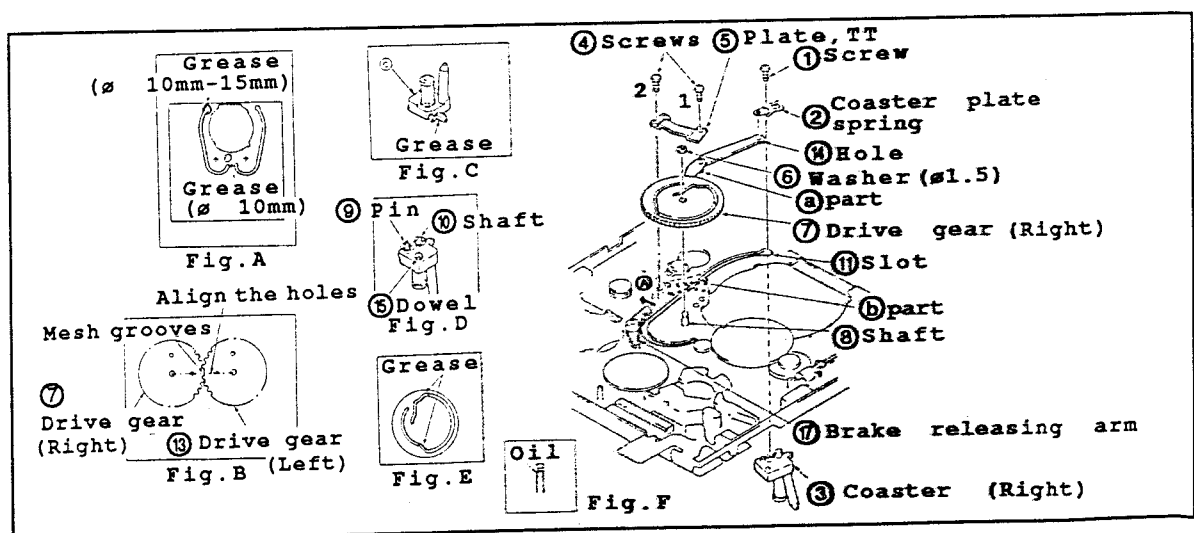

Fig.II-24
• Disassembling (Fig.II-24)
- (1) In the same procedures "3-3" and "3-12", dismount the capstan motor and the drum unit.
- (2) In the same procedures in "3-14", take off the loading lever.
- (3) Set STOP mode.
- (4) To take off the coaster plate spring ② and the coaster (Right) ③, remove the screw ①.
- (5) To detach the plate TT ⑤, remove the two screws ④.
- (6) To dismount the drive gear (Right) ⑧, remove the washer ⑥ (ø1.5).
• Reassembling (Fig.II-24)
*Caution: Do not turn the tilt adjusting screw ③ of coaster (Right). (Repair parts have been already adjusted.)
- (1) Apply the grease to the indicated positions of chassis as shown in Fig.A.
- (2) Apply the 1/2 drop of oil to the shaft ⑩. (Fig.F)
- (3) Apply the grease onto the pin ⑨, the shaft ⑩ and the dowel ⑪ of coaster (Right) ③.
- (4) Assemble the pin ⑨ and the shaft ⑩ aligning the slot ⑪ of chassis.
- (5) Put the brake releasing arm ⑦ to the arrowed direction ①.
- (6) Install the drive gear (Right) ⑦ to the shaft ⑩. Then mesh it with the drive gear (Left) ⑬ while aligning each phases as shown in Fig.B.
- (7) Align ① with ②, the hole ④ with the pin ⑨ of coaster (Right) ③, respectively.
- (8) Secure the washer ⑥ (ø1.5).
- (9) Assemble the coaster plate spring ② while aligning the shaft ⑩ (coaster ③) with the pin ⑨. Then, secure it with the screw ①. (Torque: 500g/cm approx).